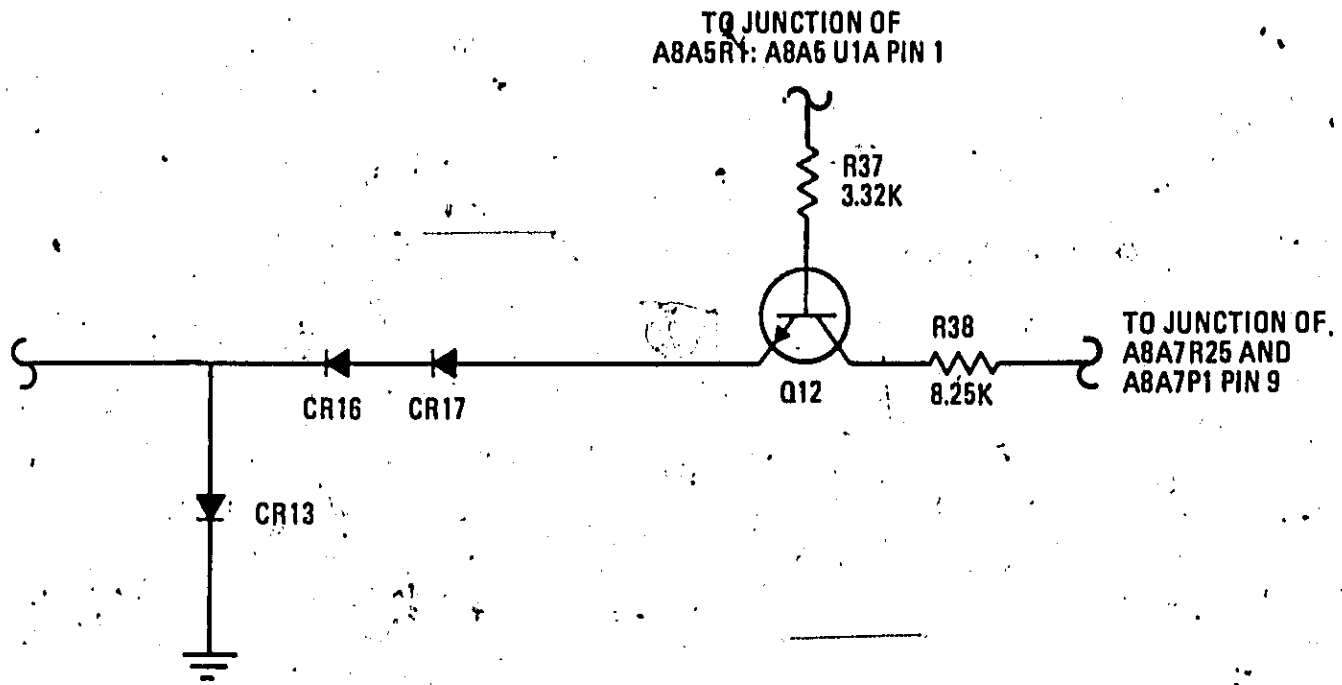

Figure 2. Board Assembly - Gate Mod, 01710-66549
21. Add Figure 2 to the Gate Assembly, A6, Schematic 23.